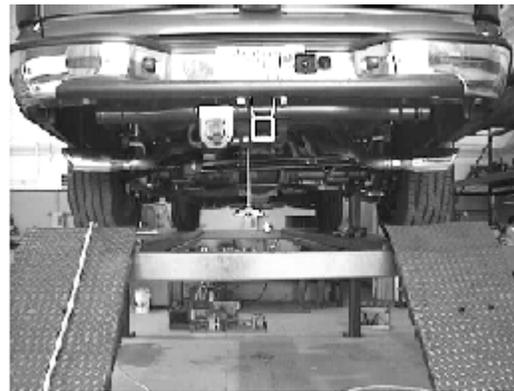

Figure 8
7. Align tips shown in figure 8 and tighten Accuseal™ clamps to 32-35 ft. lbs. working from the front of the vehicle to the rear.